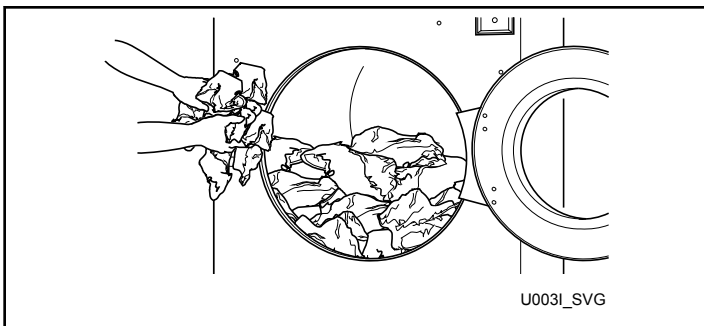

Figure 37
3. Load to capacity whenever possible. DO NOT OVERLOAD. Refer to *Figure 37*.